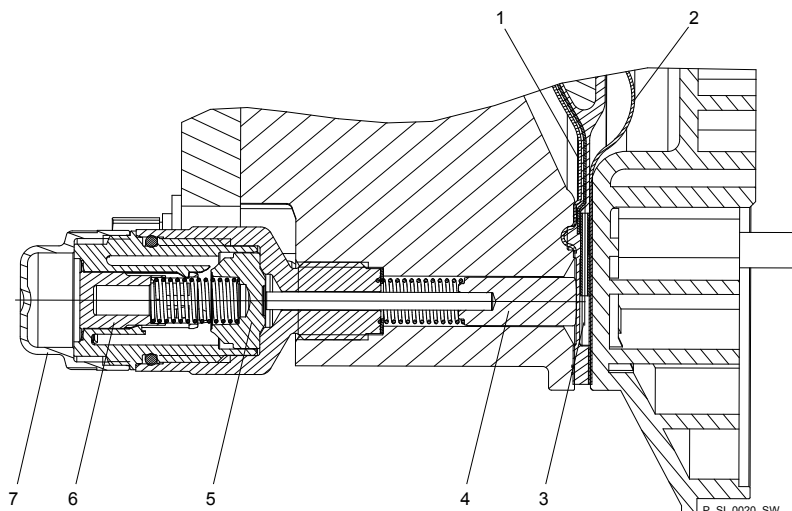

Fig. 34: Section through the Sigma diaphragm rupture warning system ("Visual break indicator" version)
2. If the piston of the diaphragm rupture sensor - see Fig. 34, item 4 - should have become dirty or damp, clean both it and the hole in which it runs.